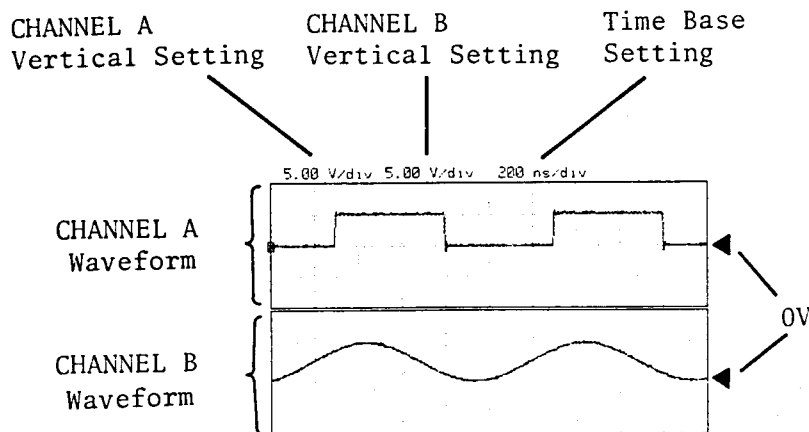

Figure 5-1. Oscilloscope Setup
The troubleshooting aids provide information to help you troubleshoot problems in the HP 4285A. Usually the troubleshooting aids consists of a list of jumpers, a list of test points, and troubleshooting information. The jumper list shows the strapping configuration for each jumper. The test point list gives a description of the signal at each test point. The troubleshooting information includes waveforms for troubleshooting the board, and the measurement setup for viewing the waveform is listed next to the waveform figure, refer to Figure 5-1.
- (1) Set the oscilloscope inputs to DC coupled (1 M Ω).
- (2) The settings (using a 1:1 probe) for channel A and B, and the time base setting are displayed with the waveform, refer to Figure 5-1. When a 10:1 divider probe is used, the channel A and B settings must be multiplied by 10.